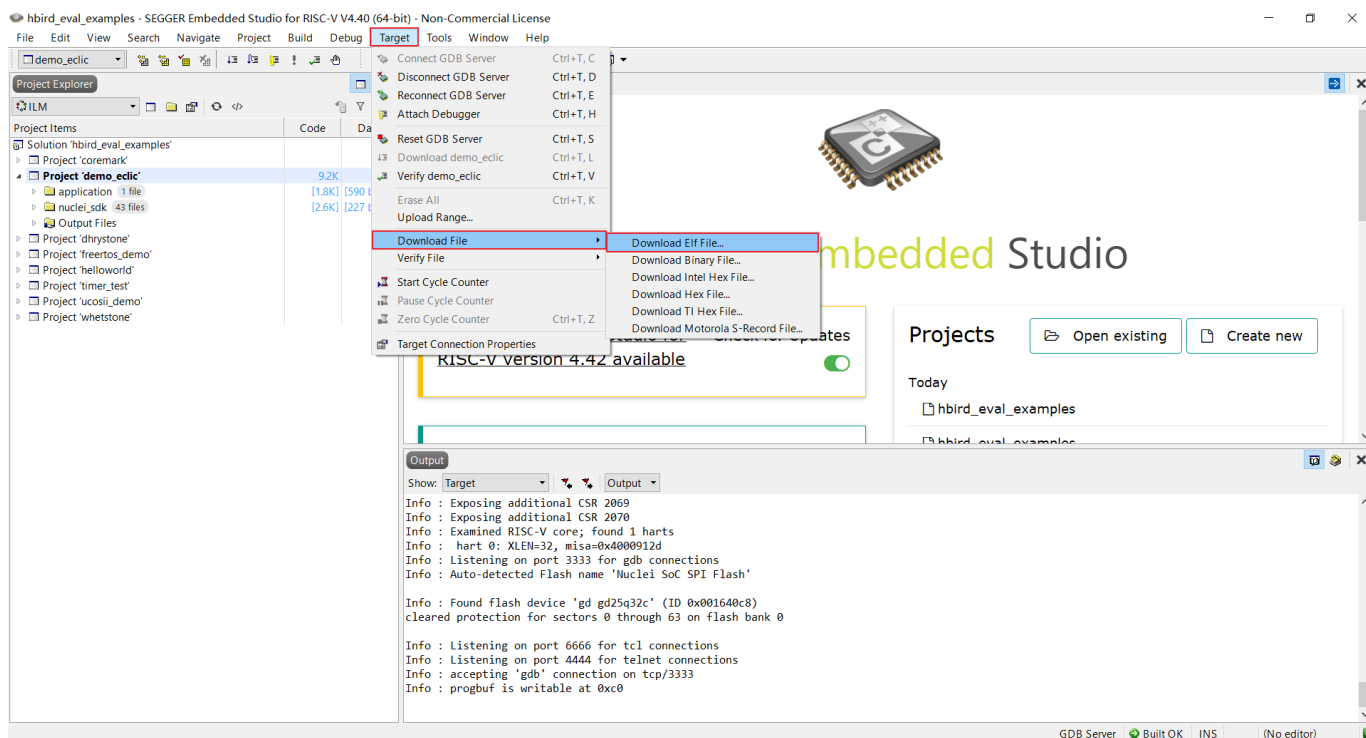

Figure 4-18 Download Elf File
- Select “Download File” option under “Target” option in the menu bar, then select “Download Elf File”, as shown in Figure 4-18, find the Elf file generated by compilation (by default the Elf file is in the “Output Files” folder), and double-click to download it to the board.